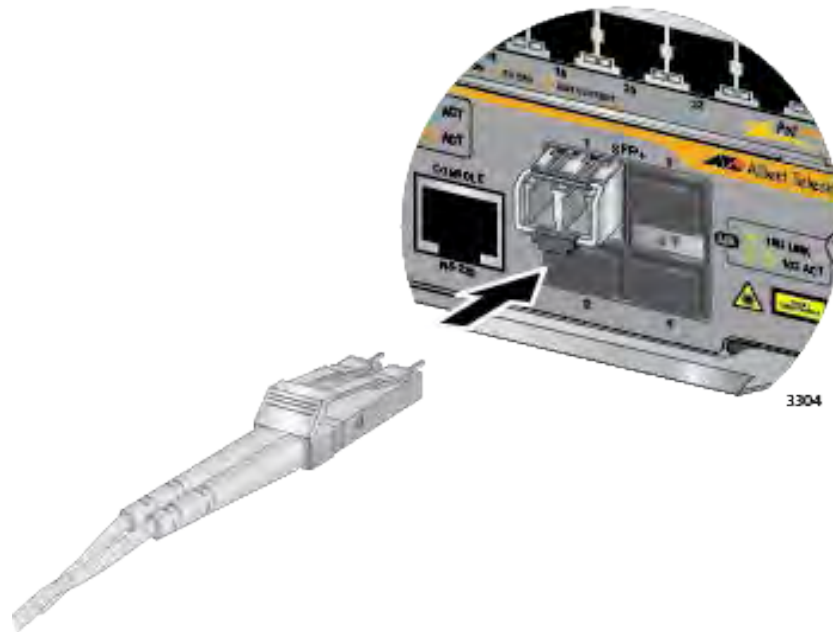

Figure 117. Attaching a Fiber Optic Cable to an SFP+ Transceiver in the AT-SBx81CFC960 Controller Fabric Card
6. Connect the fiber optic cable to the port on the transceiver, as shown in Figure 117 on page 194. The connector should snap into the port.